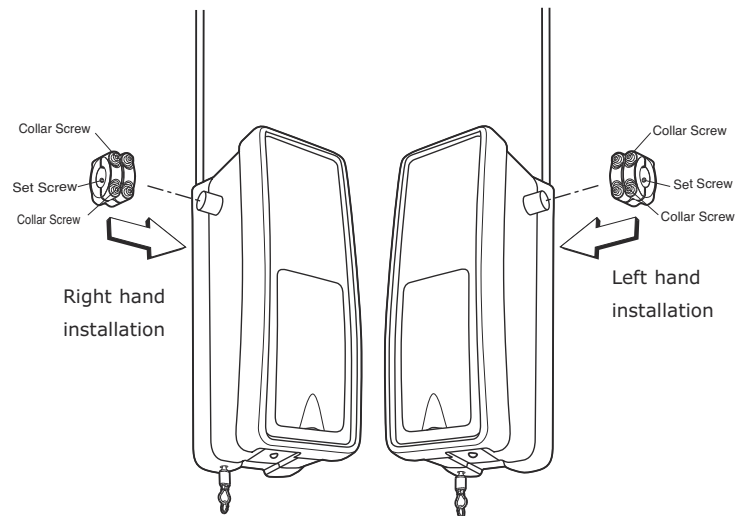

Figure 1
- Attach collar to either the left or the right side of the opener. Depending on Left or Right hand installation ensure that the collar is seated all the way on motor shaft until stop is reached (Figure 1).